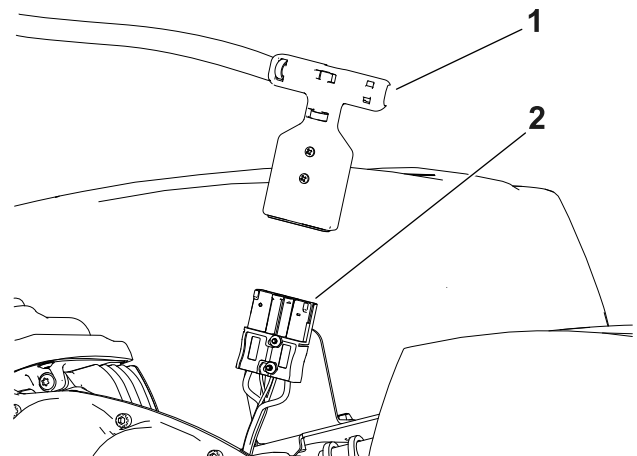

Figure 21
4. Disconnect the T-handle connector from the main wire harness to the main-power-supply connector on the battery base (Figure 21).